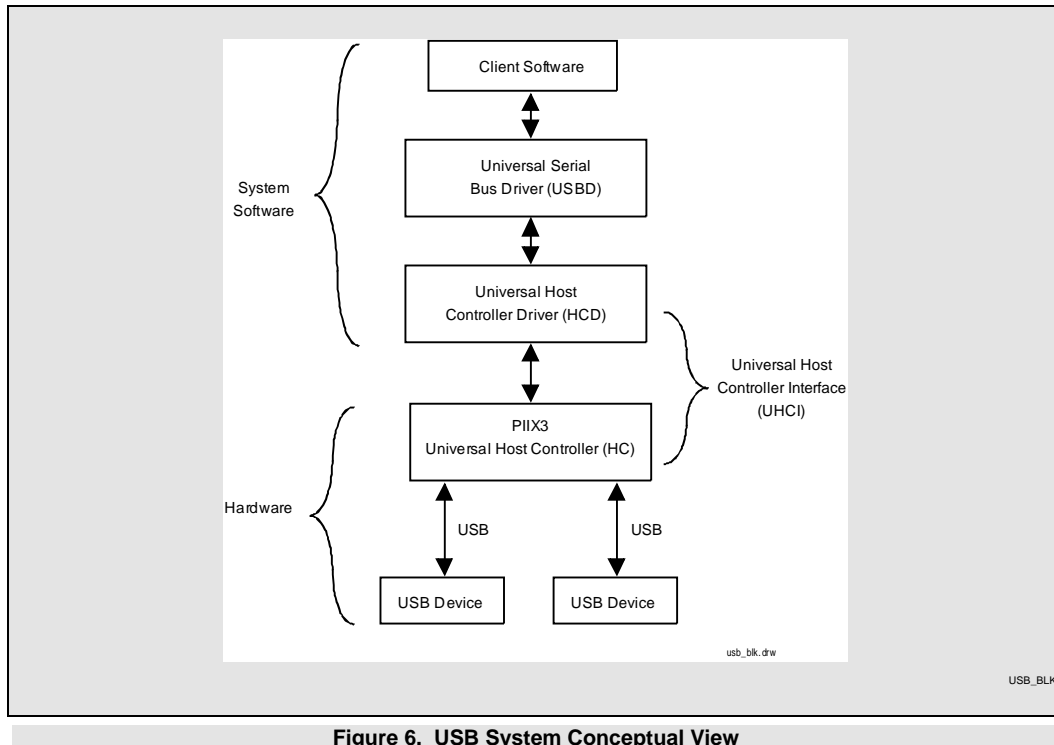

Figure 6. USB System Conceptual View
PIIX3 contains a USB Host Controller (HC). The Host Controller includes the root hub with two USB ports. This permits connection of two USB peripheral devices directly to the PIIX3 without an external hub. If more devices are required, an external hub can be connected to either of the built-in ports. The USB's PCI configuration registers are located in function 2, PCI configuration space. The PIIX3 Host Controller completely supports the standard Universal Host Controller Interface (UHCI) and thus, takes advantage of the standard software drivers written to be compatible with UHCI. Figure 6 Shows a conceptual view of a USB system. UHCI consists of two parts— Host Controller Driver (HCD) and Host Controller (HC). The Host Controller interfaces to the USB system software in the host via the HCD. The HCD software manages the Host Controller operation and is responsible for scheduling the traffic on USB by posting and maintaining transactions in system memory. HCD is part of the system software and is typically provided by the operating system vendor. HCD provides the software layer between the PIIX3's Host Controller and the USB software layer (also located in the operating system). The UHCI's HCD software interprets requests from the USB and builds Frame List, Transfer Descriptor, Queue Head, and data buffer data structures for the Host Controller. The data structures are built in system memory and contain all necessary information to provide end-to-end communication between client software in the host and devices on the USB.